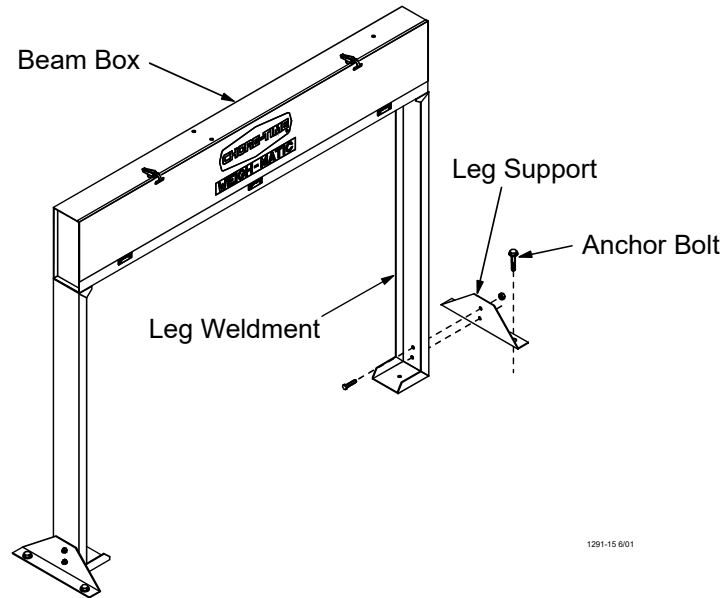

Figure 11. Attaching the Legs and Leg Supports to the Beam Box
3. Attach the Legs and Leg Supports to the Beam Box. Anchor the Beam Box in place on the bin pad. See **Figure 11**.